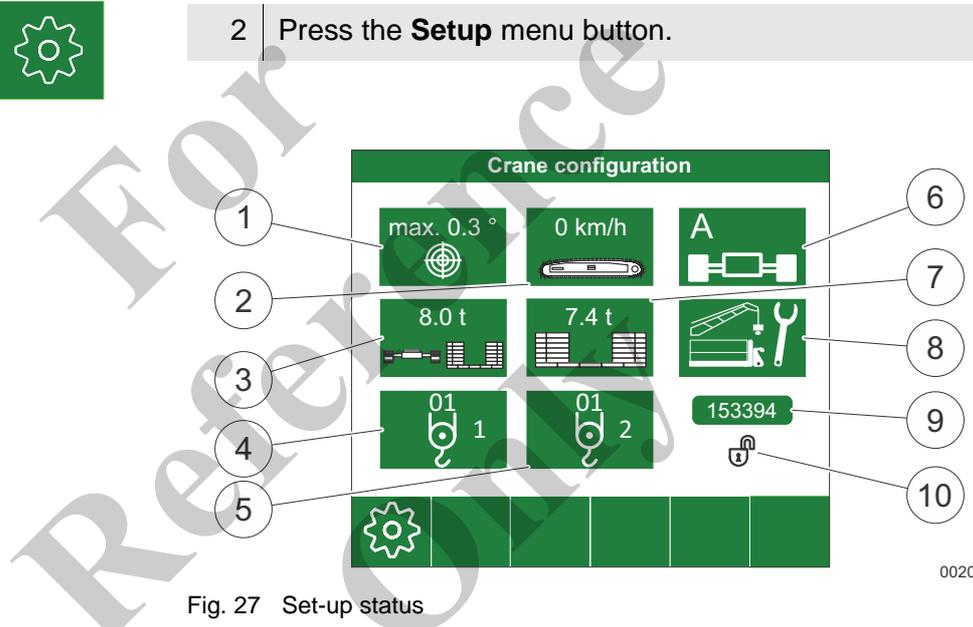

Fig. 27 Set-up status
If the current load capacity is greater than a specified load, the load change lock (10) in Fig. 27 prevents the LML operating parameters from being modified. When the load change lock is active, a closed lock icon appears. When the load change lock is inactive, an open lock icon appears.